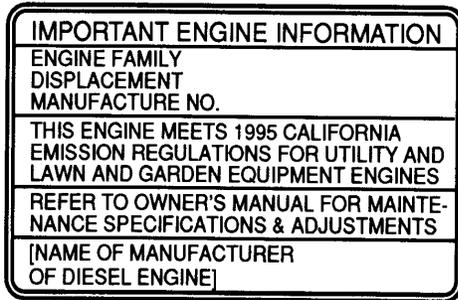

Figure 7: Emission Control Label
- a. Emission control label: a new label, shown in Figure 7, contains important engine information.